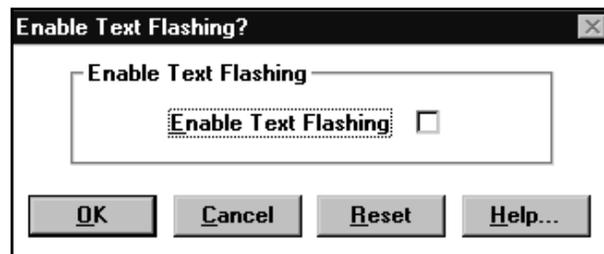

FIGURE 72. Example of Enable Text Flashing dialog box
1. In the configuration window, select Text Flashing. (See Figure 72.)